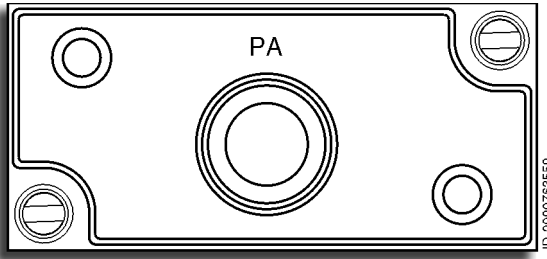

Figure 14-3
Public Address (PA) Push To Talk (PTT) Switch – The PA switch, shown in Figure 14-3, is located on the aft center pedestal. The PA switch is a PTT switch that directs the active microphone to the public address system.